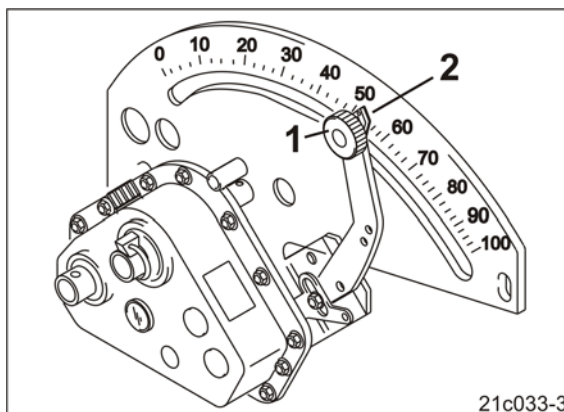

Fig. 50
3. Loosen the rotary knob (Fig. 50/1).
4. Set the pointer (Fig. 50/2) from below to the gearbox setting number on the scale (Fig. 50/3).